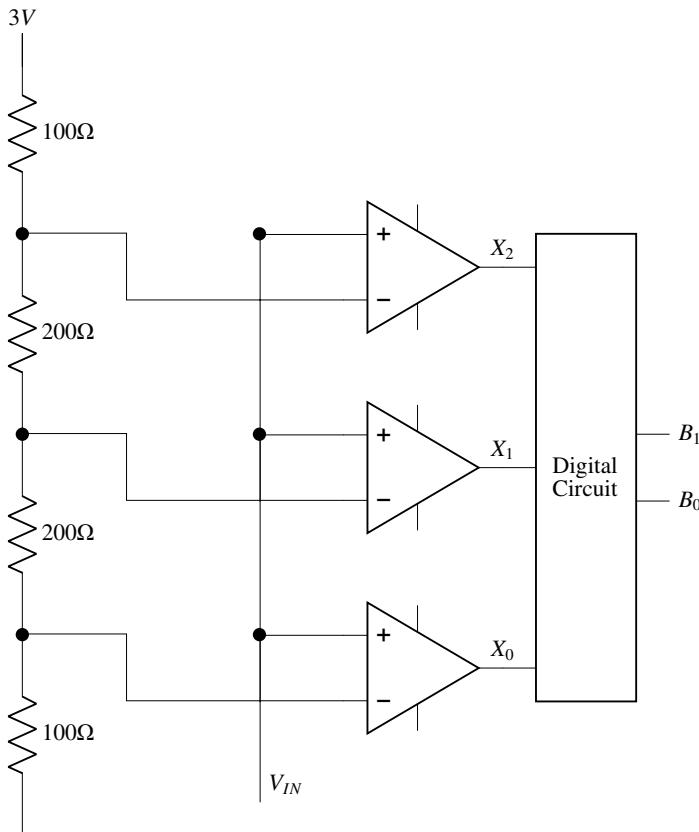

Fig. 3.34
52. A 2-bit flash Analog to Digital Converter (ADC) is given in Fig. 3.34. The input is $0 \leq V_{IN} \leq 3$ Volts. The expression of the LSB of the output B_0 as a boolean function of X_2, X_1 , and X_0 is